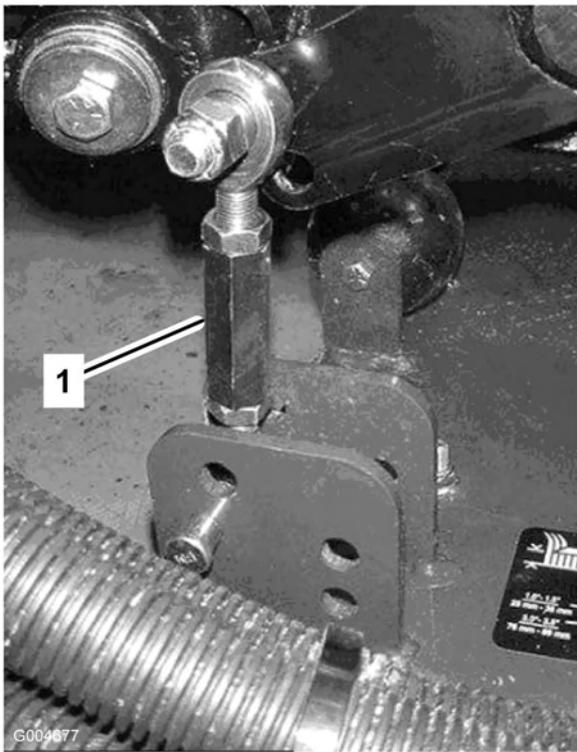
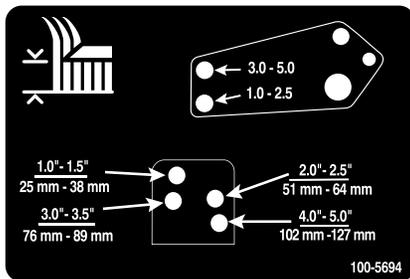

Figure 22
Figure 23
- Remove the hairpin cotters and clevis pins securing the damper links to the cutting unit brackets (Figure 22). Align the damper link holes with the selected height-of-cut bracket holes in the cutting unit frame (Figure 23), insert the clevis pins, and install the hairpin cotters.